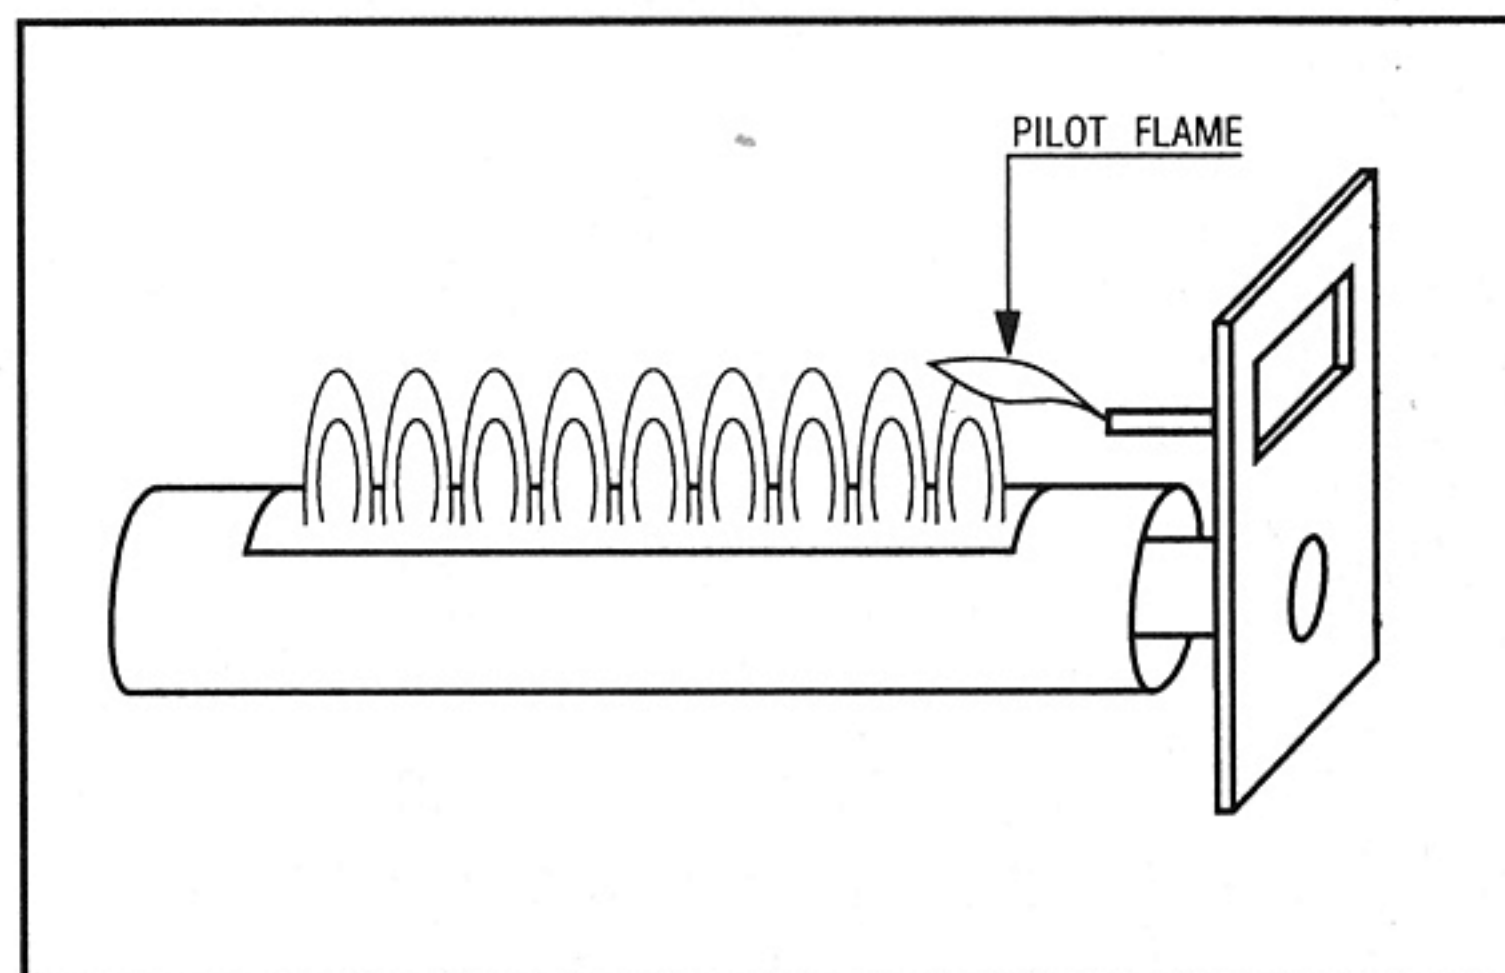

FIG. 13
12. While the main burner is ON, check the pilot and burner flames to see that they are burning a clean blue color, See Fig. 13 for an approximation of the correct flame pattern. If your unit is not burning cleanly, or if you are not sure, turn the unit OFF and contact a qualified service technician or the gas supplier or call Controlled Energy at 1-800-642-3111.